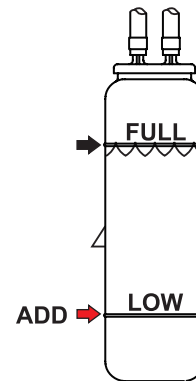

Figure 36. Coolant Recovery Tank
- Verify that the coolant level in the coolant recovery tank is between the **FULL** and **LOW** markings as shown in Figure 36.